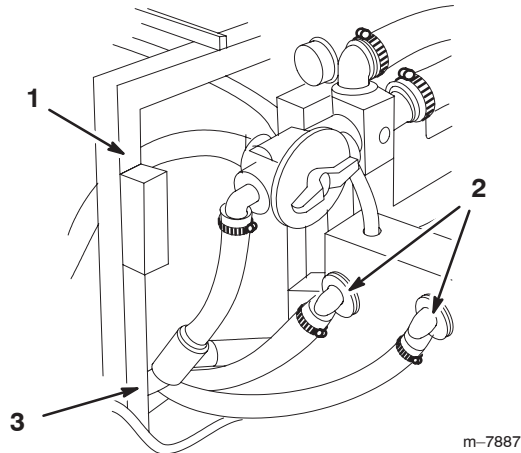

Figure 12
12. Route the hoses from the supply tee and control valve between the hose reel support frame and tank as shown in Figure 12.